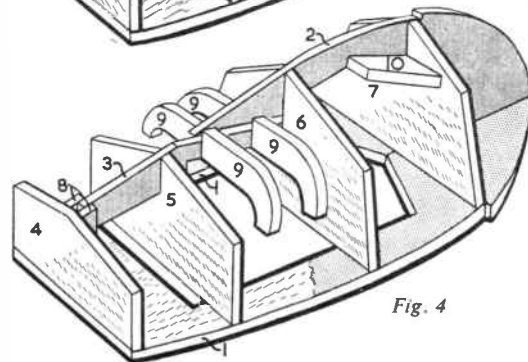

Fig. 4
Continue by adding the battery rests (9) and the motor bed (10) as seen in Fig. 4.